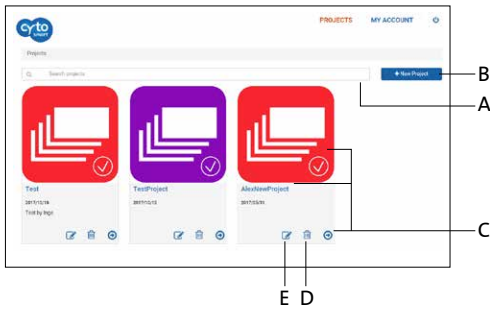

Figure 22. Project overview
After logging in to the Cloud, you will get access to an overview of all projects (Figure 22). Navigating the portal is simple. If you have multiple projects in an account, use the “Search Projects” bar (A) to quickly search for a project. To create a new project, select “New Project” (B). This is similar to beginning a new project, as described in Section 3. It is not possible to start an experiment from the cloud.